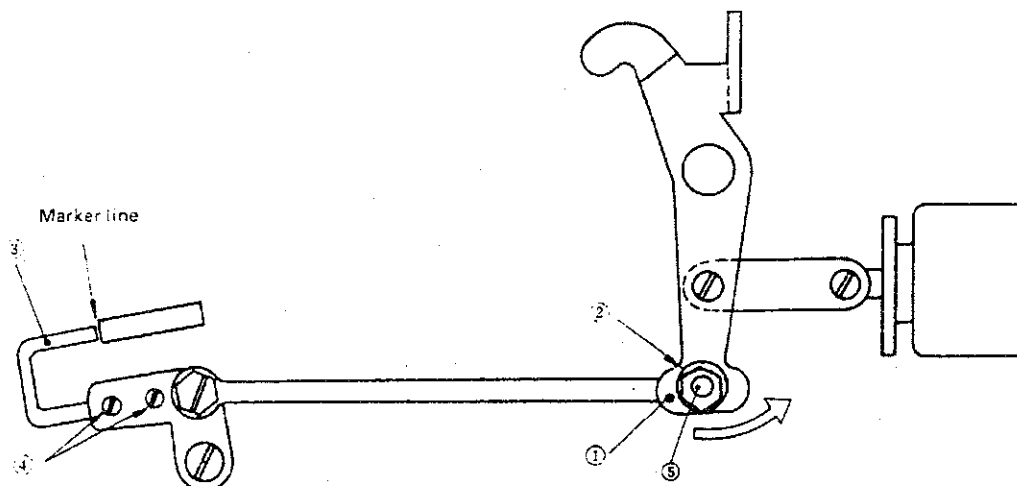
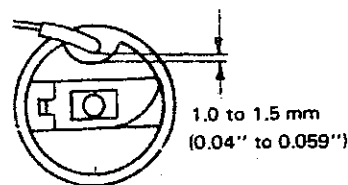

Fig. 35
Fig. 36
If thread take-up picker ③ (Fig. 35) enters the bobbin case too deeply at the time of thread trimming, the bobbin does not turn, and the bobbin thread is cut too short, causing stitch skipping at the start of sewing. On the contrary, if the entrance of the thread take-up picker into the bobbin case is not enough, the needle thread slips off the tip of the thread take-up picker at the time of thread trimming. As a result, the thread remaining on the needle after trimming becomes too short, causing the thread to slip off the needle.
With clutch disc ① (Fig. 35) pushed in the direction of arrow (to the right), make adjustment so that the bobbin thread can be pulled out smoothly.
At this time, perform the adjustment so that a clearance of 1.0 to 1.5 mm (0.04" to 0.059") is provided between the tip of the thread take-up picker (bobbin winder trip latch) and the middle of the top recess of the bobbin case, and also the rear end of the bobbin winder trip latch is aligned with the marker line of the thread take-up picker. (Fig. 36)
After loosening screws ④ (Fig. 35), adjust so that the tip of the thread take-up picker (bobbin winder trip latch) is positioned as shown in Fig. 36. To adjust the entrance of the thread take-up picker into the bobbin case, move stopper ② (Fig. 35). After completion of the above adjustment, retighten the nut of the stopper ⑤.